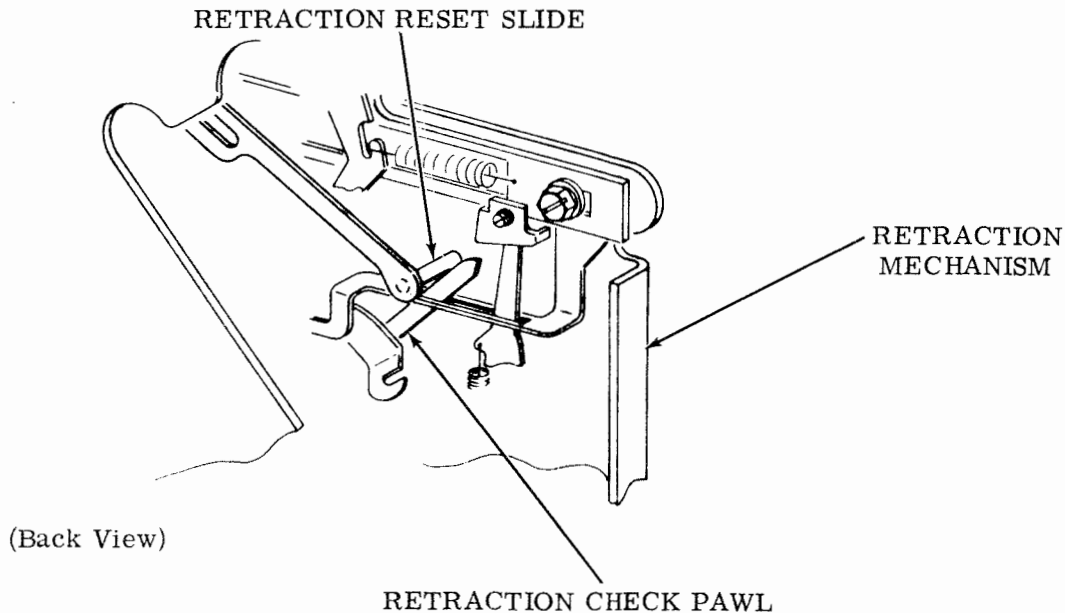

Figure 4 - Retraction Slide and Check Pawl
2.09 View the vertical positioning mechanism on the left side of the typing unit. The retraction reset slide (long thin black bail pivoted in the center) should be positioned in front of the retraction check pawls. If not in front of the pawls, move the retraction reset slide out and around in front of the checkpawls. See Figure 4.